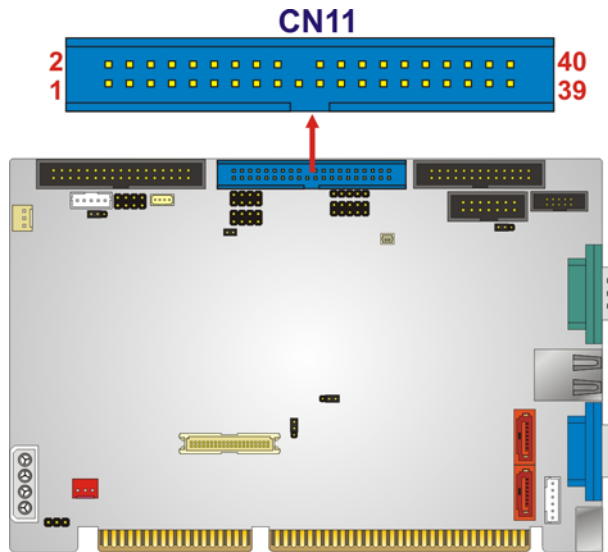

Figure 3-11: IDE Device Connector Locations
- CN Location:** See Figure 3-11